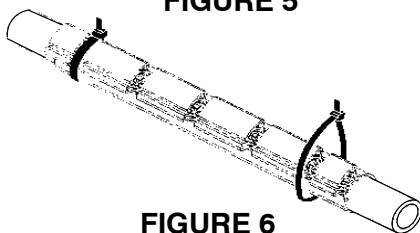

FIGURE 6
6. Install cable ties at outermost notches of snap locks. Splice is complete and ready for use. See Figure 6.